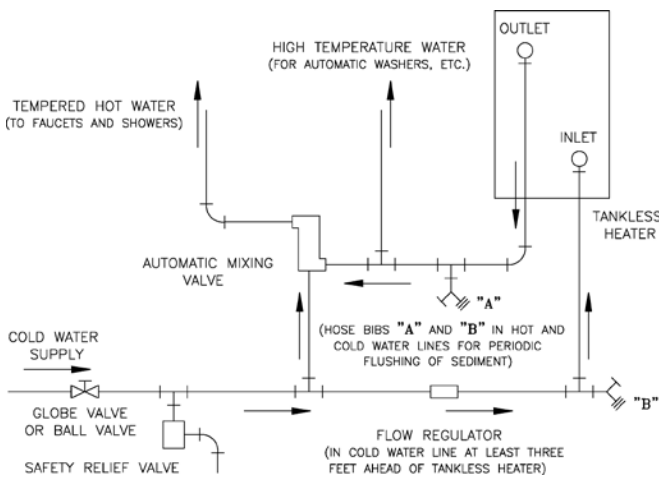

Figure 6: Schematic Tankless Heater Piping
- G. **CONNECT TANKLESS HEATER PIPING AS SHOWN IN Figure 6.** See Table 3 for Tankless Heater Ratings.